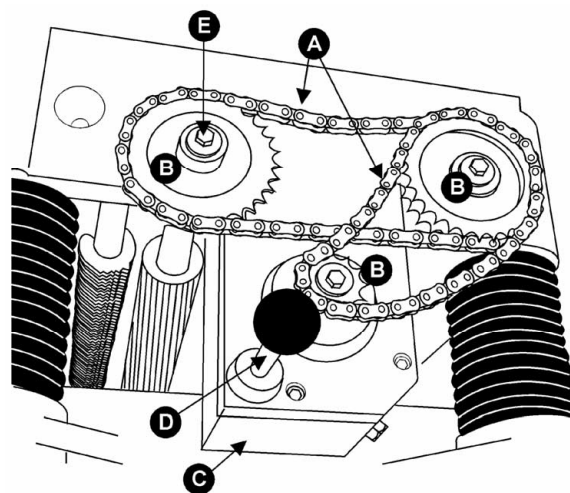
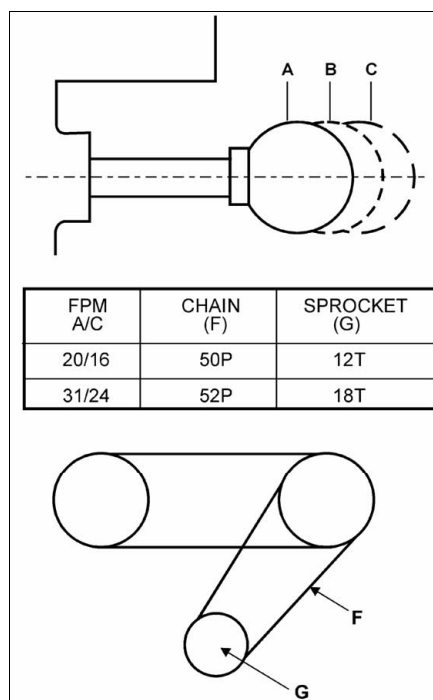

Figure 28
Figure 29
Your machine is equipped with a spiral, serrated infeed roller and a solid outfeed roller. When the feed rollers are engaged, they turn to feed the stock. The feed rollers slow automatically when the machine is under heavy load for best planing in all conditions. The feed rollers are driven by chains (A, Fig. 28) and sprockets (B, Fig. 28) which take power directly from the cutterhead through the oil bath gear box (C, Fig. 28).
The gear box has two feed speeds. These are set by pulling out or pushing in the shift lever (D, Fig. 28) while the machine is running. The feed speed range is shown in Fig. 29.
The lowest feed speed for your planer (16.2 fpm & 20.7 fpm) can be obtained by replacing the lower (gear shaft) sprocket and the chain. See Fig. 29. To change the sprocket and the chain on your machine, proceed as follows:
2. Remove the three hex cap screws and washers (E, Fig. 28).
3. Remove the three sprockets (B, Fig. 28) from the infeed roller, outfeed roller and the gear shaft at the same time.
4. When the sprockets (B, Fig. 28) are removed, replace the lower sprocket which will be assembled on the gear shaft.
5. Assemble the three sprockets and chains to the shafts, and tighten the hex cap screws (E, Fig. 28).